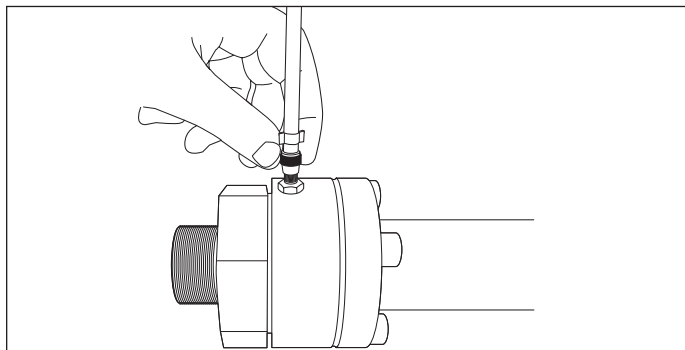

Figure 21-8
7. Attach Fuel Sensor housing hose to the DoubleTrac® end fitting (Figure 21-8).